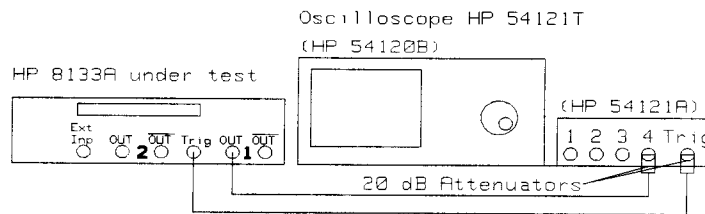

Figure 6-15. PULSE Channel Width Test Set-up
42. Connect the HP 8133A to the oscilloscope as shown in Figure 6-15.
56. Keep the equipment as shown in Figure 6-15, but remove the 20 dB attenuator on Channel 4 of the oscilloscope.